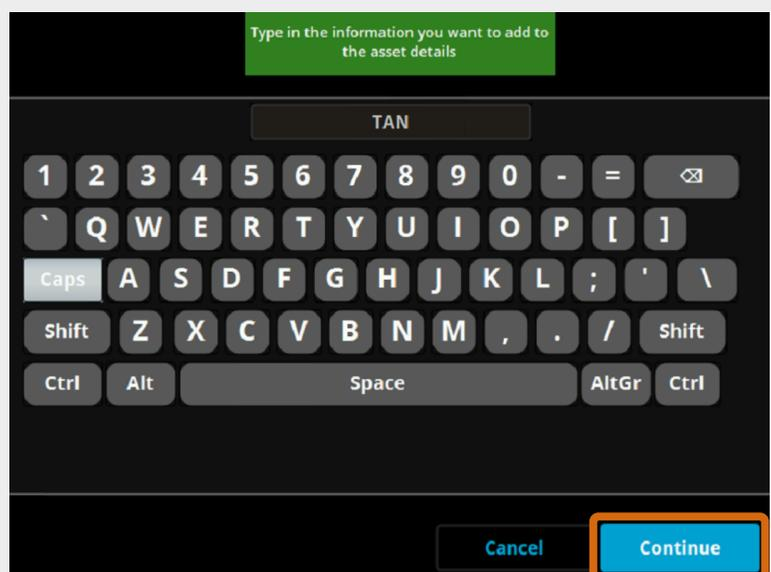

Fig. 26 – Keyboard with Continue button indicated
- 🔑 If you wish to save your entry, press **Continue** on the keyboard screen, as shown in Fig. 26. You are returned to the Manage Asset screen with the new information saved.